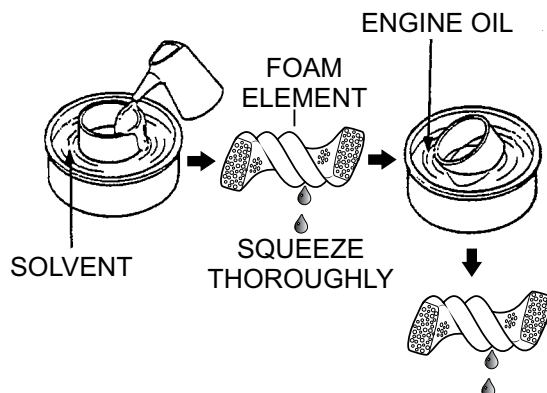

Figure 34. Cleaning Foam Element
3. Clean foam element (Figure 34) in warm, soapy water or non-flammable solvent. Rinse and dry thoroughly.